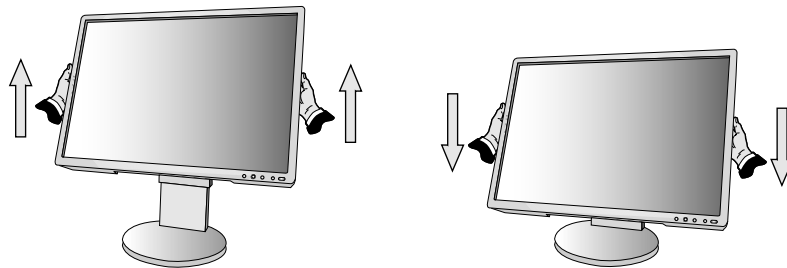

**Figure E.1**
8. Connect the power cord to the power outlet (**Figure E.1**).
9. Turn on the monitor with the front power button and the computer (**Figure E.1**).